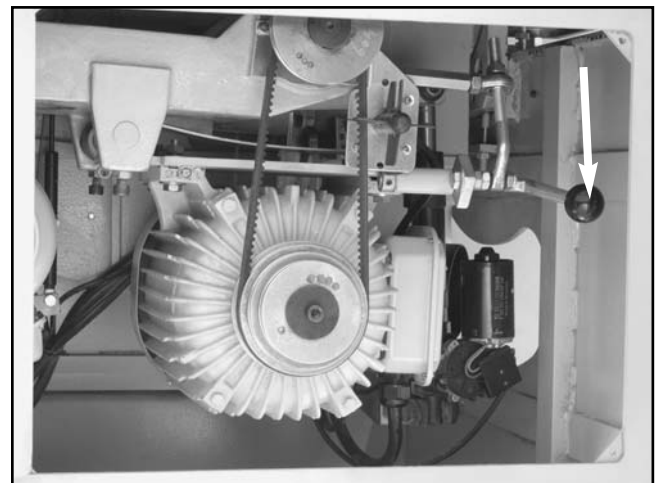

Figure 61. Belt tension release handle.
3. Move the belt tension handle (**Figure 61**) down to loosen the V-belt.